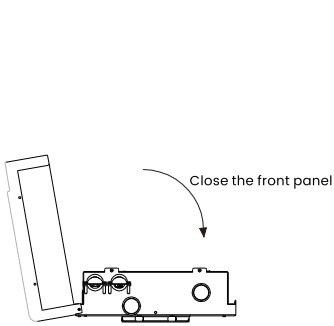
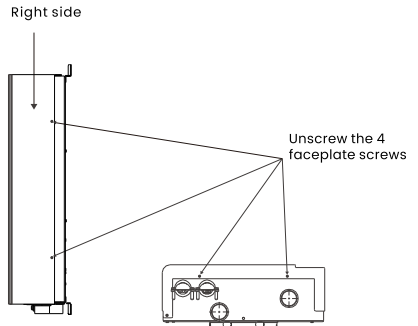

Fig 8
Fig 9
**Step 6:** Replace the front panel (Fig 8) and tighten the four screws (Fig 9).